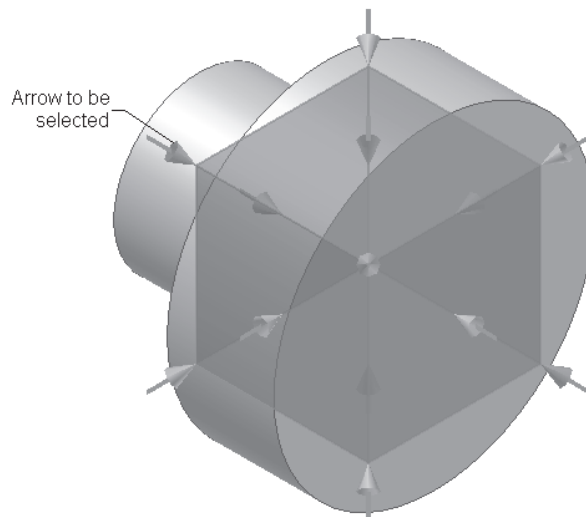

Figure 3-56 Selecting the **Common View** options to reorient the model
3. Move the cursor close to the arrow on the upper left vertex on the left face of the cube, see Figure 3-56; the arrow turns red in color. Select this arrow.